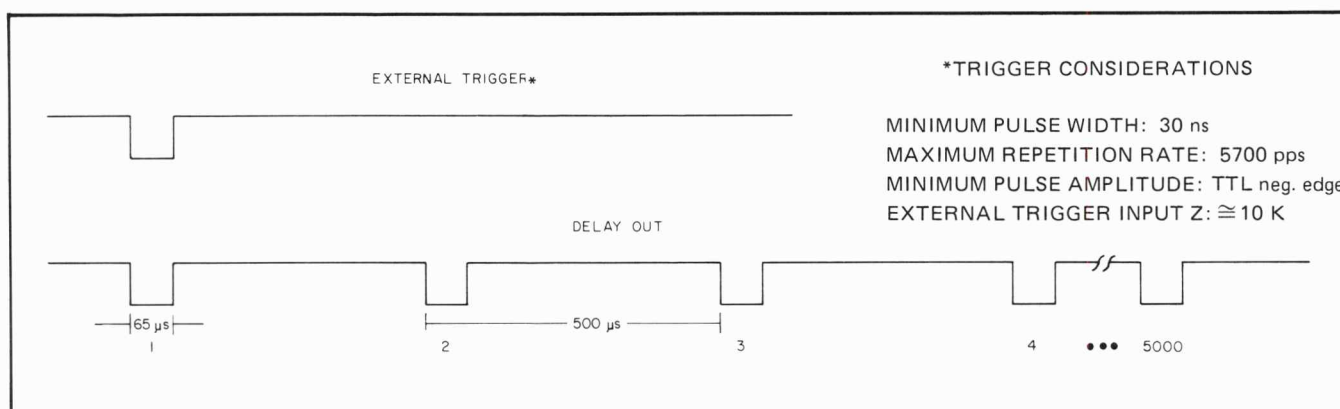

Figure 3-7. Burst Mode Delay Out.
a. For each trigger received, the 3437A will generate a burst of triggers (5000) at a 2000 Hz (1/500 μs) rate (Figure 3-7). Maximum Rate = 9 kHz.